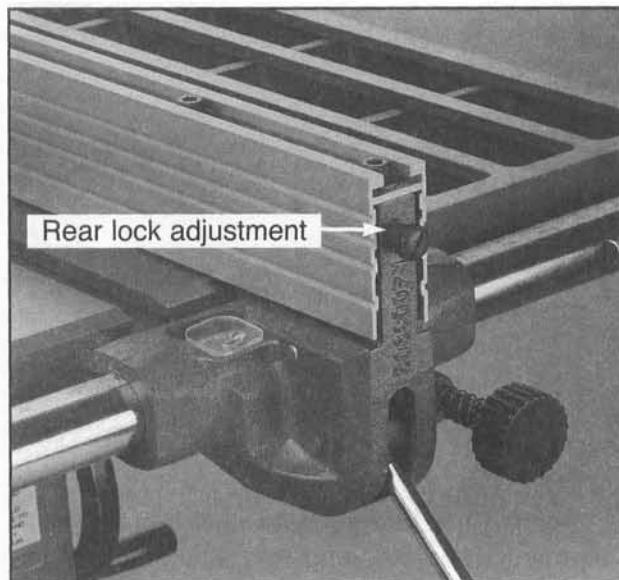

Figure 31.
3. Loosen the rear lock adjustment (the slotted screw on the front of the fence) until the rear locking lever ceases to engage the rear rail with the fence in the locked position. **Figure 31.**